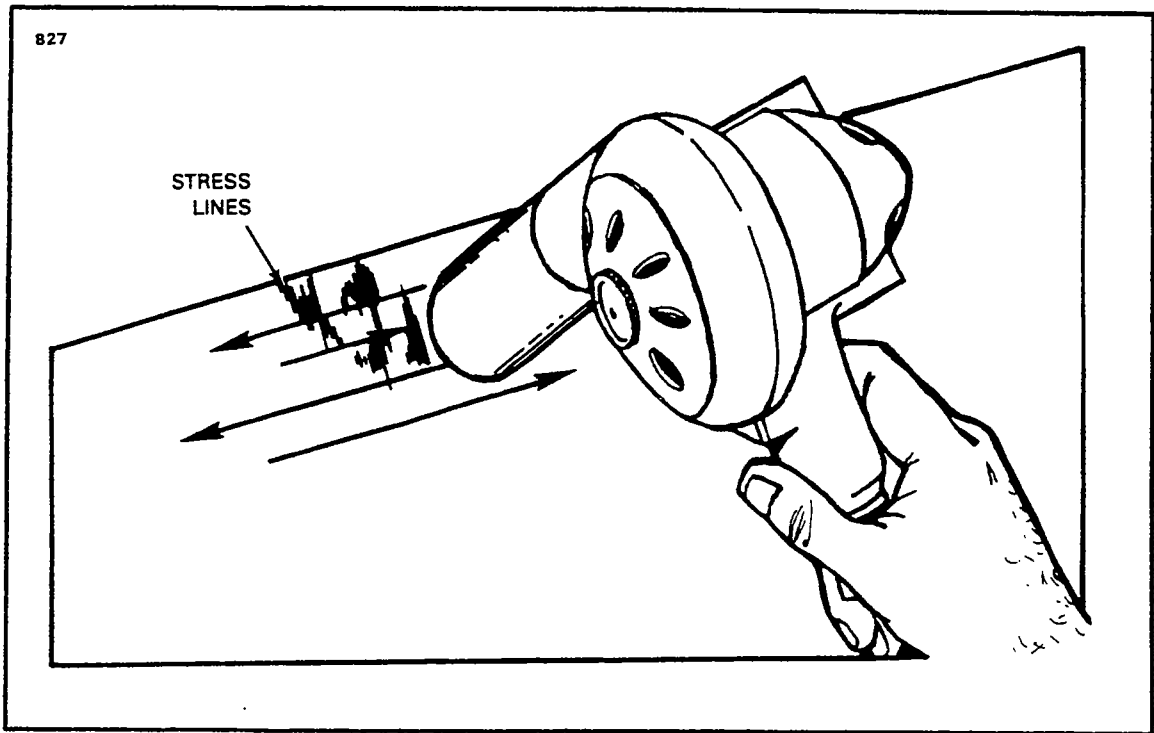
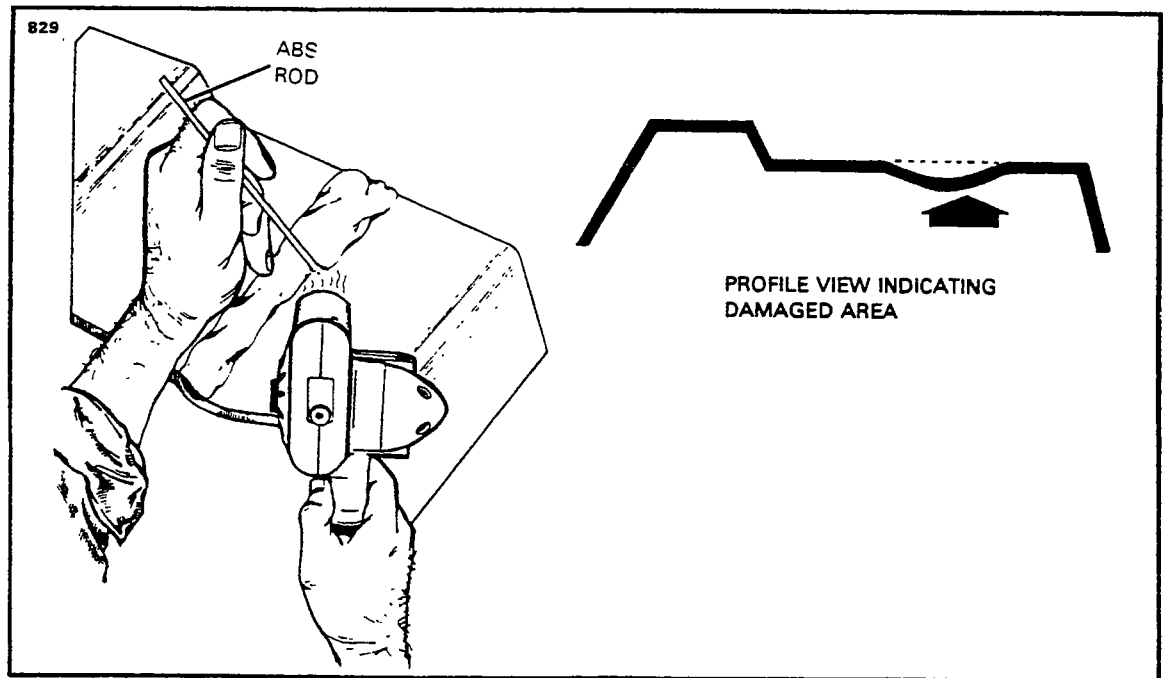
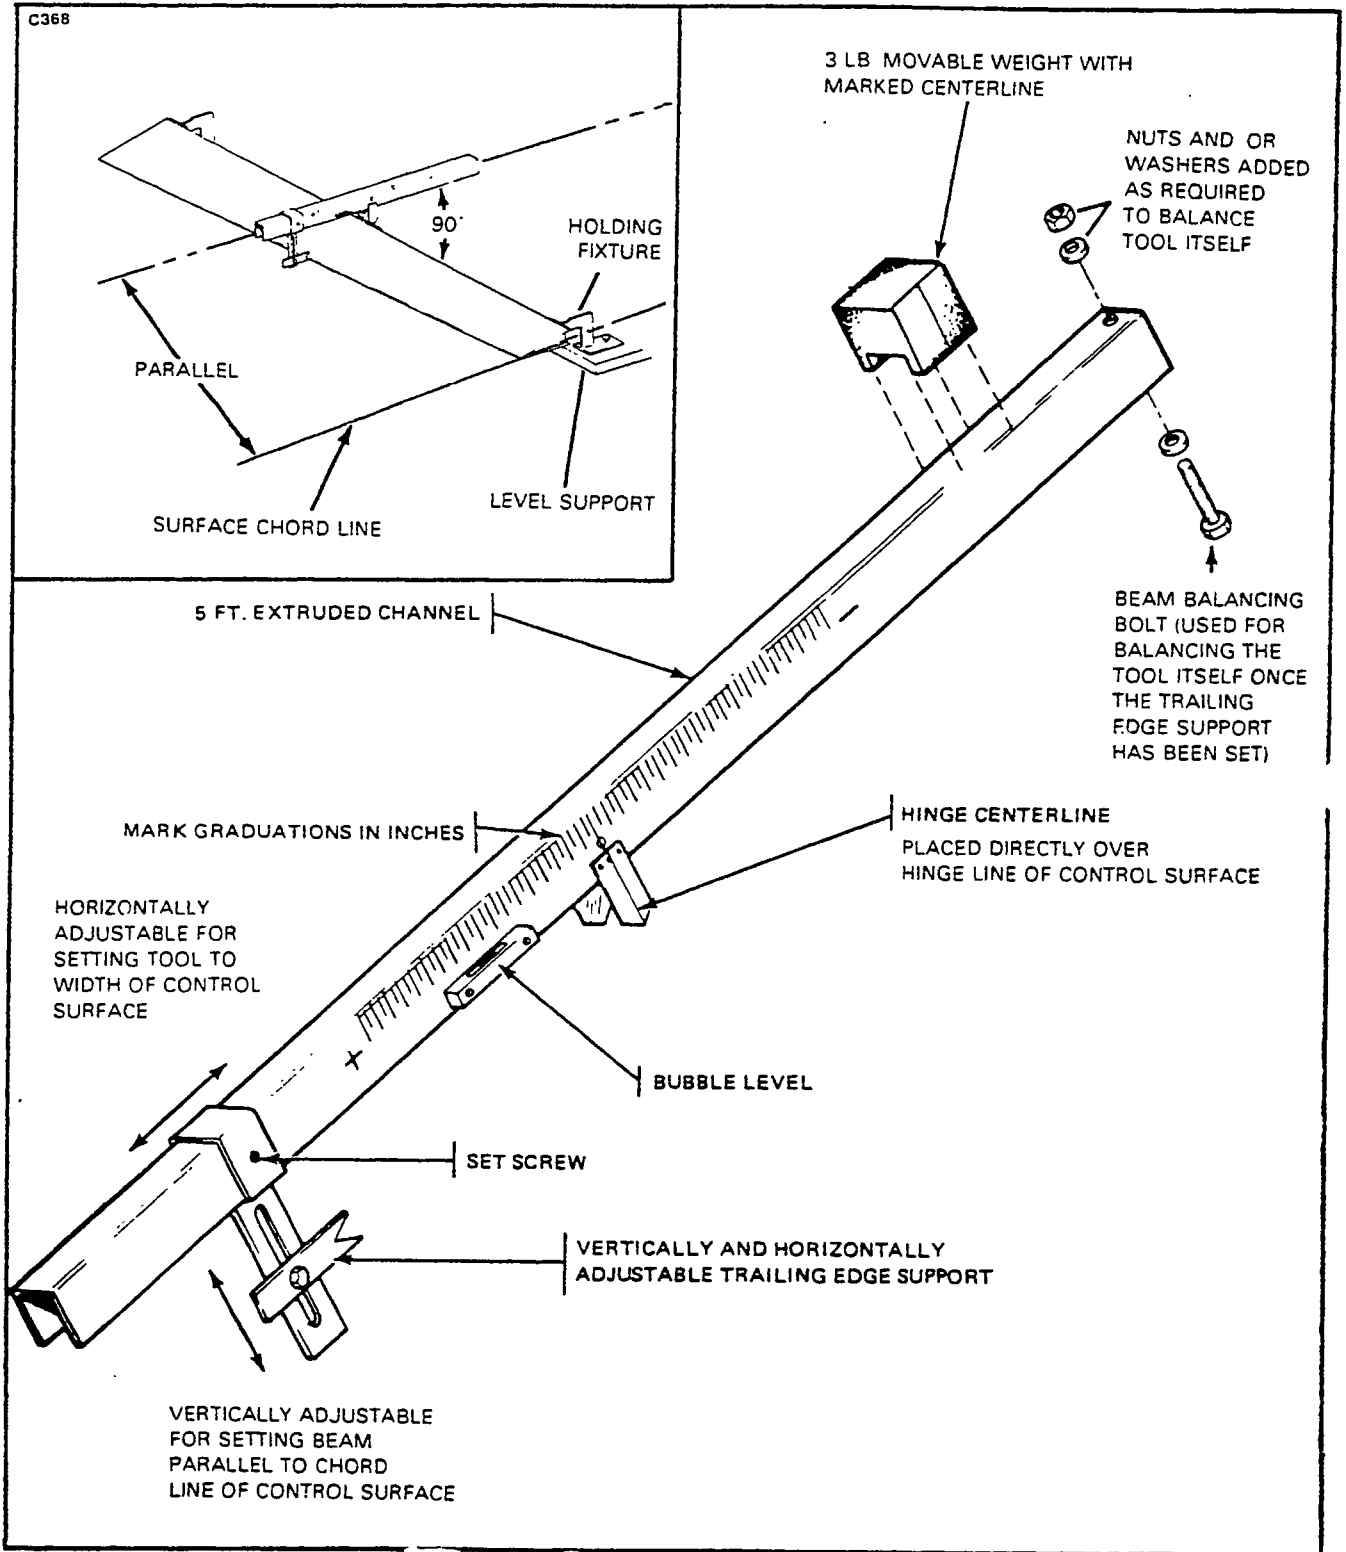

Figure 4-17. Repair of Stress Lines
Figure 4-18. Repair of Impacted Damage
Figure 4-19. Control Surface Balance Tool
f. Stress Lines: (Refer to Figure 4-17.)
1. Stress lines produce a whitened appearance in a localized area and generally emanate from the severe bending or impacting of the material. (Refer to Figure 4-18.)
4-72 BALANCING EQUIPMENT (Refer to Figure 4-19). The balancing must be done using a suitable tool capable of measuring unbalance in inch-pounds from the centerline of the control surface hinge pin. A suggested tool configuration is shown in Figure 4-17. Other tool configurations may be used, provided accuracy is maintained and recalibration capability is provided. The tool shown in Figure 4-17 may be calibrated by placing it on the control surface to be balanced with the balance points over the control surface hinge centerline and the balance bar parallel to the cord line. Position the trailing edge support to align the tool with the control surface cord line and secure in this position. Remove the tool without disturbing the trailing edge support and balance the tool by adding weight to the light end as required. (The movable weight must be at the centerline.) Place the tool on the control surface perpendicular to the hinge centerline as shown in Figures 4-18 and 4-19. Read the scale when the bubble level has been centered by adjustment of the movable weight.